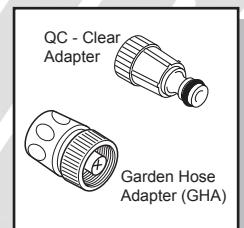

Fig. 10
- Install the garden hose adapter (GHA) and quick connect filter. It is made up of two separate pieces. (1) A clear plastic adapter with a screen filter (about 3 inches long) and (2) a blue/black collar attachment (Fig. 10).